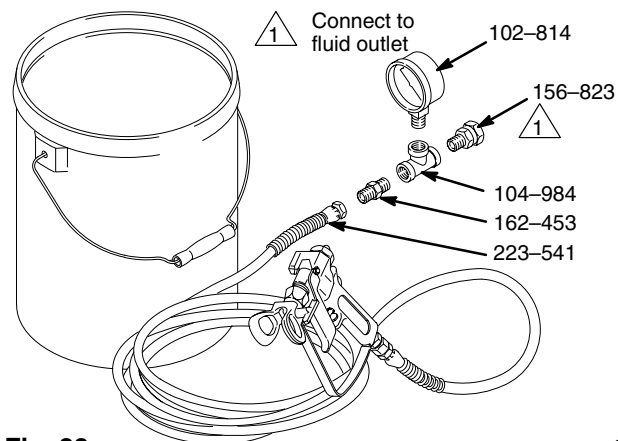

Fig. 23
2. Set up the system as shown in Fig. 23.